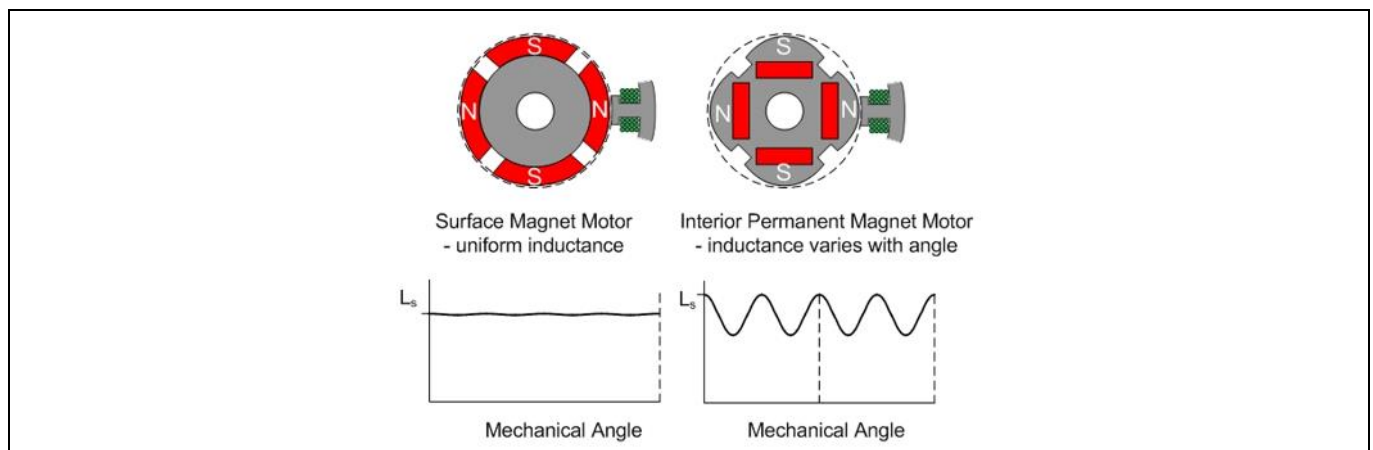

Figure 4 Motor type (PM motor, IPM motor)
When working with surface permanent magnet (PM) motors the winding inductances L_d and L_q will have the same value with any rotor angle as shown in Figure 4, left. However, when working with interior permanent magnet (IPM) motors the winding inductance varies with the rotor angle as shown in Figure 4, right, and the L_q inductance is greater than the L_d inductance.